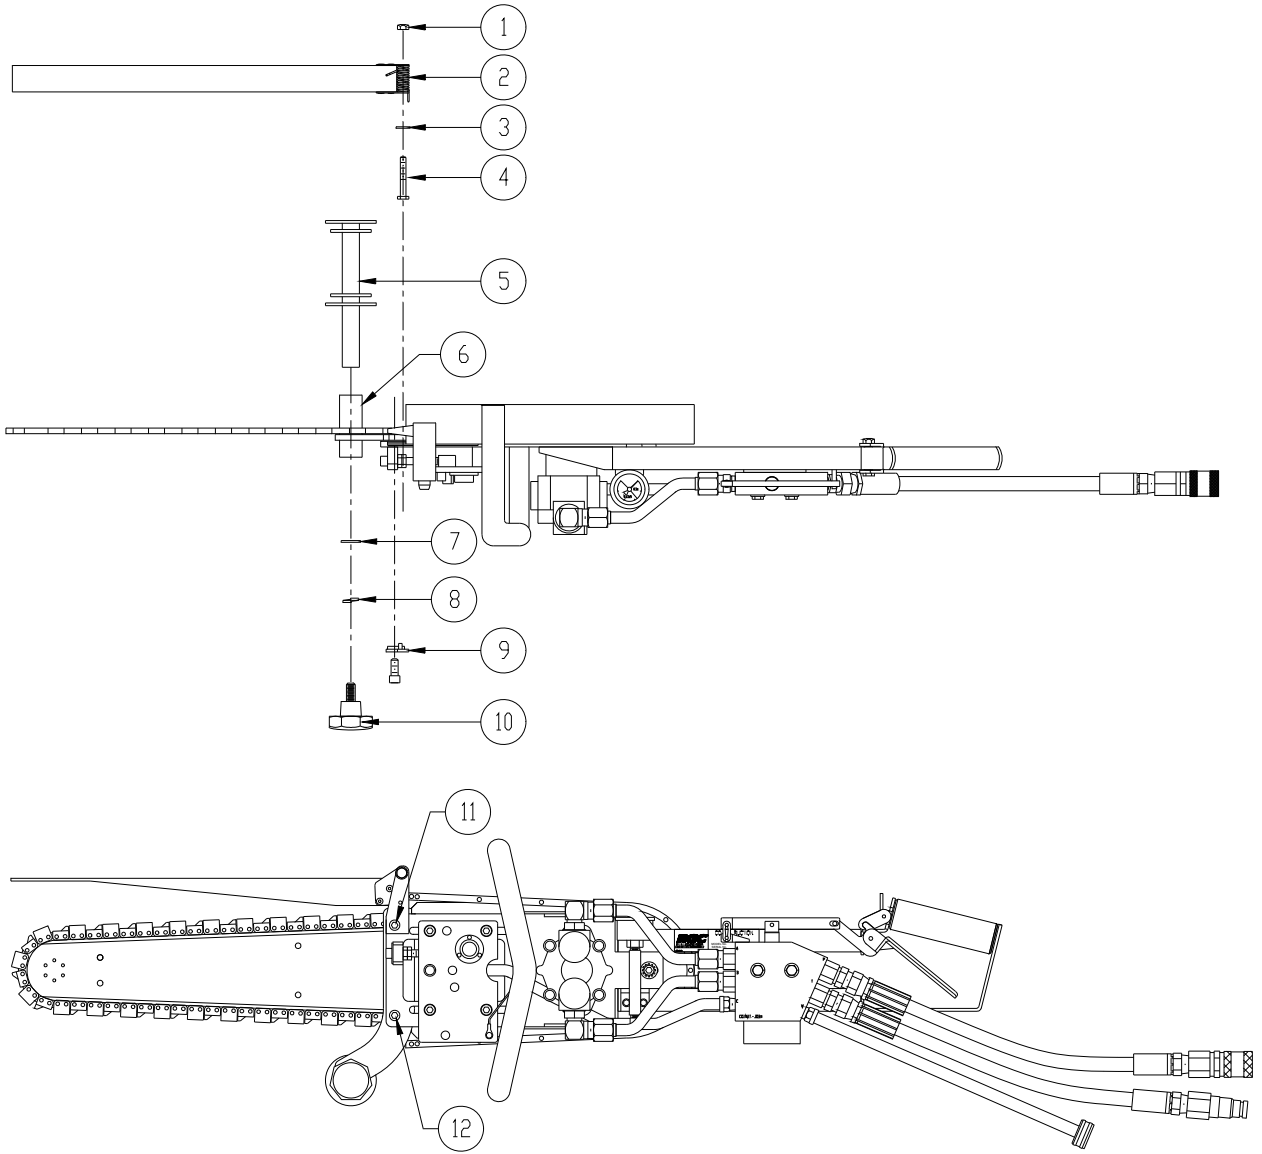

Figure 5-1
3. Position the splash guard bracket over the top hole in the mounting bracket. The splash guard will run along the upper length of the bar. Secure mounting bracket to the frame and the splash guard to the mounting bracket with the 5/16” x 3/4” socket head cap screw supplied. See Figure 5-1 in Chapter 5.
Each item number on this parts list can be matched with the item number shown on the Figure 5-1 assembly drawing.